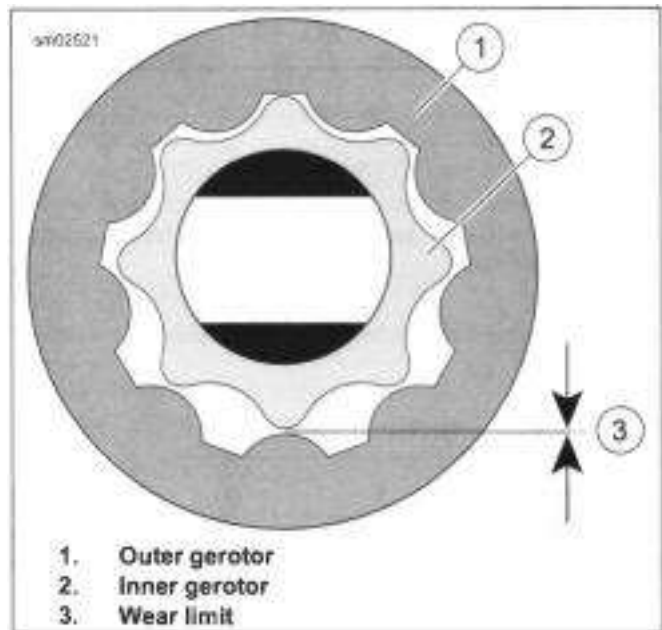

Figure 4-60. Measure Gerotor Sets for Wear
6. See Figure 4-60. Check gerotor wear.